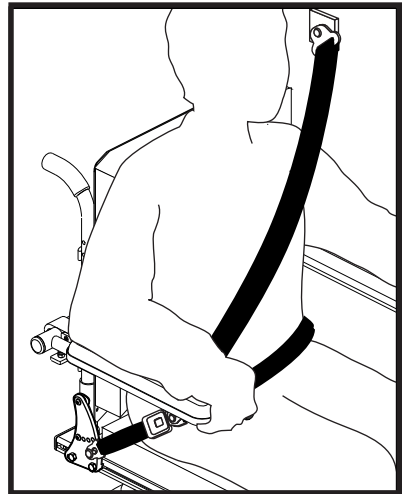

Figure 14. Upper-torso Belt Placement
- Place the upper-torso belt across the middle of the shoulder and the center of the chest, and connect to the pelvic belt that is secured to the floor of the vehicle. See figure 14.